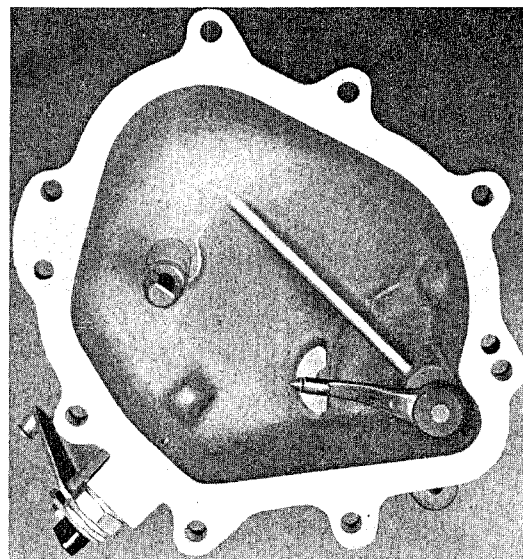

Fig. 105
4. The reverse idler shaft in the transmission cover must be secured with a roll pin. The hollow shaft must be closed with an aluminum plug and installed as in Fig. 105.